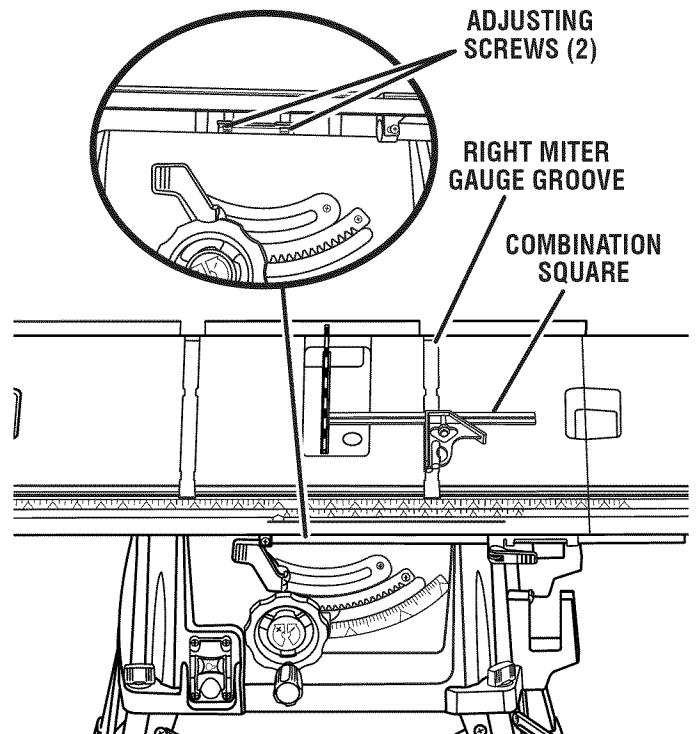

Fig. 36
See Figures 36 - 38.
- Mark beside one of the blade teeth at the front of the blade. Place a combination square even with the front of the saw table and the side of the saw blade as shown in figure 36.